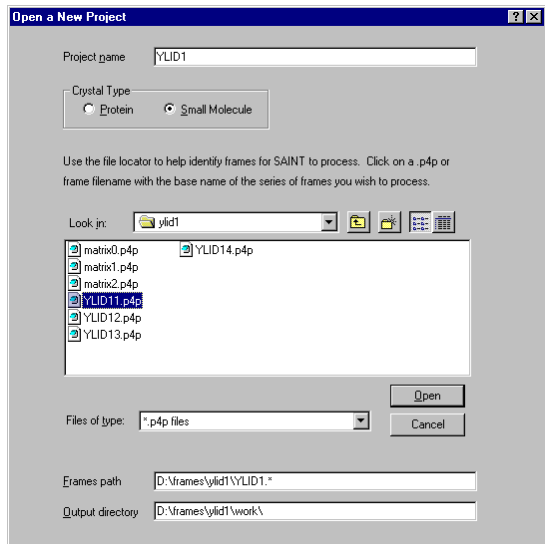

Figure 5-3. Select a .P4P file
- Select one of the .P4P files (i.e., not a MATRIX file) from the full data set. Then click open (Figure 5-3).